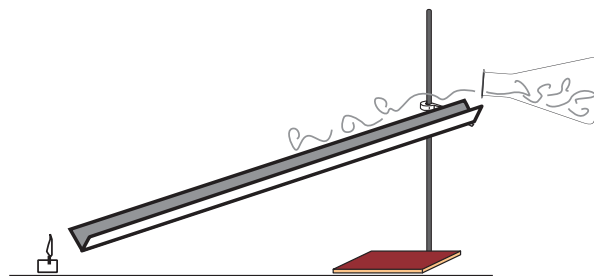

Figure 1.
2. Prepare a "vapor ramp" by elevating one end of the aluminum angle bracket using a ring stand and clamp. The ramp should be at a 20° angle or about 20 cm elevation (see Figure 1).
3. Place an unlit, tealight candle on the countertop directly below the lower end of the vapor ramp (see Figure 1).